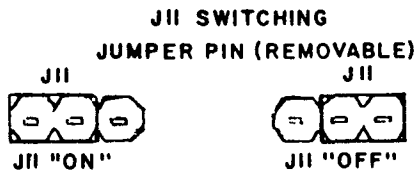

FIGURE 10. BLOCK DIAGRAM - PI CONTROL PCB
27. Refer to the PI Control PCB block diagram (Figure 10) and make the following adjustments.